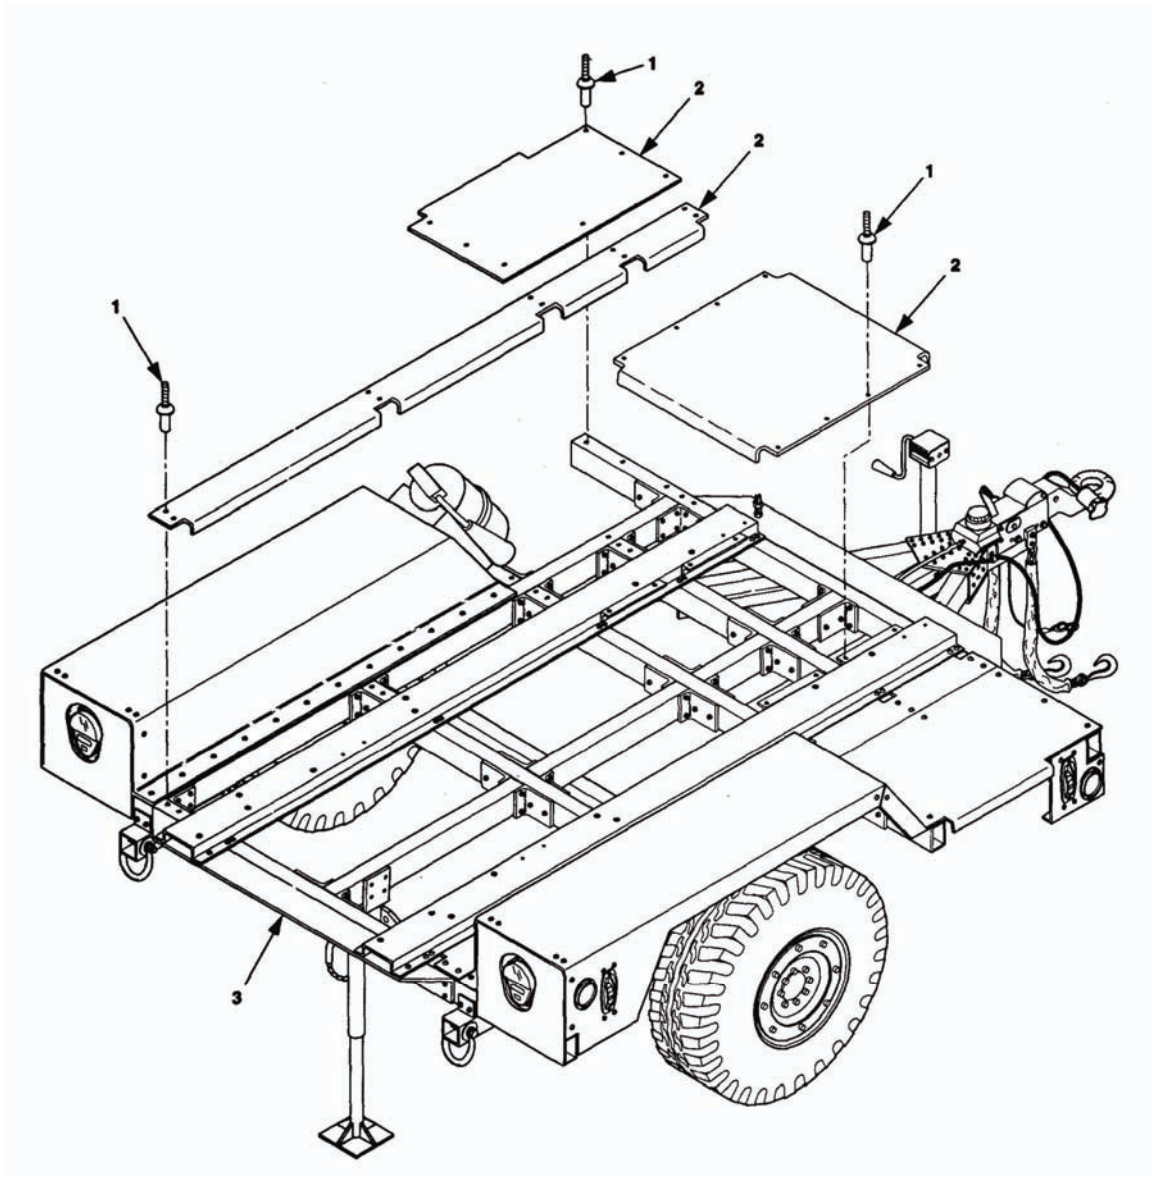

Figure 5-18. PU-801A and AN/MJQ-48A Floor Maintenance.
Place floor sections (2, figure 5-18) on trailer chassis (3) and secure with rivets (1).